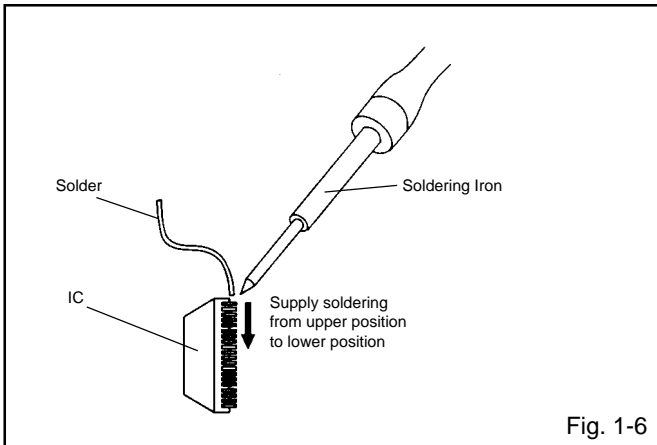

Fig. 1-6
2. Supply the solder from the upper position of IC leads sliding to the lower position of the IC leads. (Refer to Fig. 1-6.)